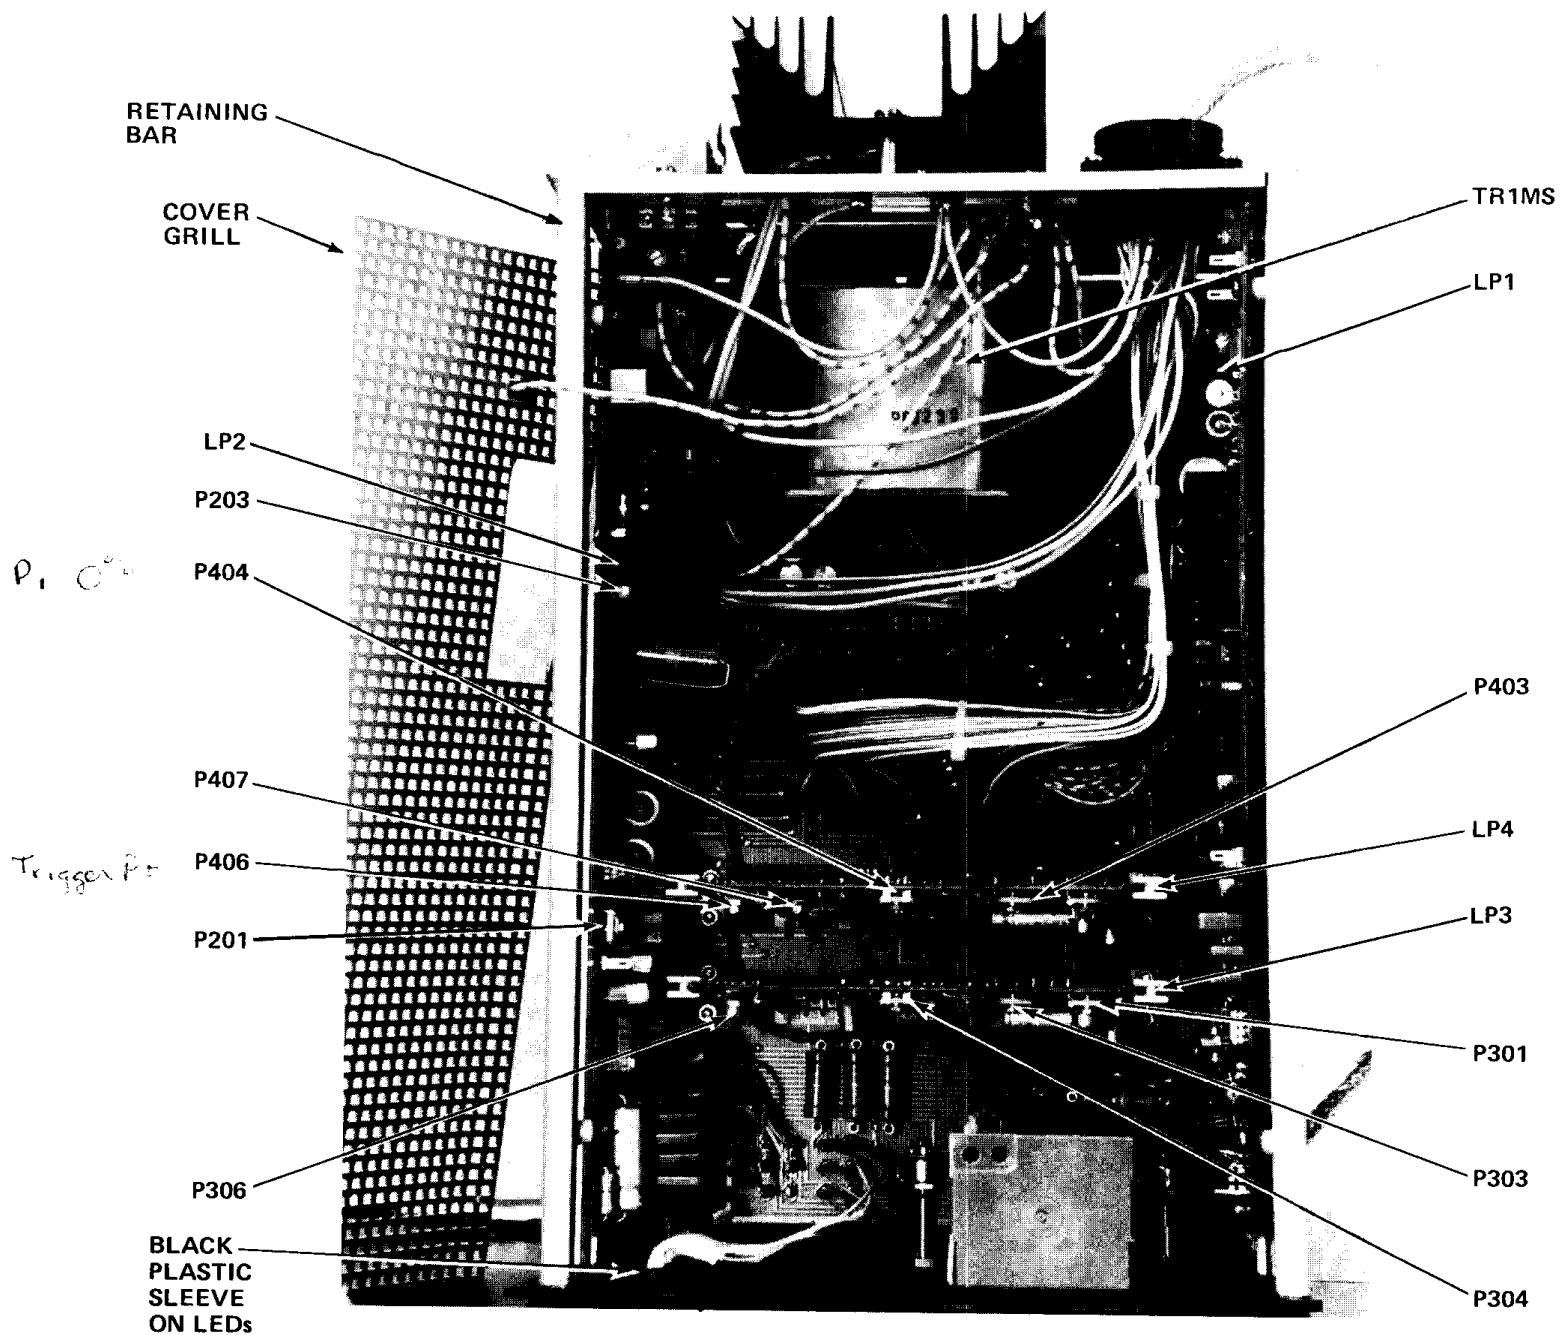

Figure 8-17 - Top of MS Module Showing the PC Boards
- (1) Turn the knob on the T200 fully clockwise. If the meter does not read  $10^3$ , adjust trimmer potentiometer P305 (see Figure F-LP3) until the meter reads  $10^3$ .
- (2) Turn the T200 knob fully counterclockwise. If the meter does not read  $10^{-3}$  mbar, adjust trimmer potentiometer P304 (see Figure 8-17) until the meter reads  $10^{-3}$ .
Turn the T200 knob so that PII is greater than  $10^{-2}$  mbar. The voltage between pin 29 and 30 should drop to 0 when PII exceeds  $10^{-2}$ . If necessary, adjust P306 (see Figure 8-17) until the switching point from 21V to 0V is at  $10^{-2}$  mbar.
- d. Turn the T200 knob fully counterclockwise. If the meter does not read  $10^{-3}$  mbar, adjust trimmer potentiometer P404 (see Figure 8-17) until the meter reads  $10^{-3}$  mbar.
- (1) Set the PI pressure at greater than 1 mbar using the optional T200 gauge test tube.
- (2) Check the voltage between pins 27 (+) and 30 (-) of LP4. It should be 0V (see Figure F-LP4).
- (3) NOTE: You should be able to hear the relay click when the voltage jumps from 0 to 22 volts.
- (4) Correct the trigger point as necessary using potentiometer P406 (see Figure 8-17).
- f. Refer to Step e to check the PI  $10^{-2}$  mbar trigger. The indicated voltage between pins 27 and 30 should jump from 0 to 22V at  $3 \times 10^{-2}$  mbar. If not, use potentiometer P407 to correct the trigger setting (see Figure 8-17).
\* See Figure 8-17 for the location of this PC board.
WARNING: DISCONNECT PLUG "A" FROM THE REAR OF THE MS MODULE BEFORE REMOVING OR INSTALLING THE PC BOARDS. PC BOARDS LP1 AND LP2 HAVE HIGH DC VOLTAGES (SEE FIGURES 8-17 AND 8-18).
Proceed as follows to replace a PC board in the MS module (see Figure 8-17).
2. Loosen one of the top retaining bars on the MS module by removing the phillips screw from one of the top corners of the front panel and removing the two slotted screws from the corresponding top corner on the rear panel. The retaining bar remains fixed to the PC board but you can pull the retaining bar outward slightly to remove the cover grill (see Figure 8-17).
3. Remove the cover grill from the top of the MS module after disconnecting the ground (green/yellow) lead. (See Figure 8-17).
2. Pull the black plastic sleeve from around the back of the LED on the back side of the MS-module front plate (see Figure 8-17).
4. In case of deviation, correct the trimmer potentiometer P203 to approximately +90VDC (see Figure F-LP2). If the "U1" peak can not be adjusted (see Section 4-3, Step 7a and Figure 8-17), clean the mass spectrometer (see Section 8-3).
2. Place the test prods between studs A(+) and B(-) (see Figures 8-17 and F-LP2).